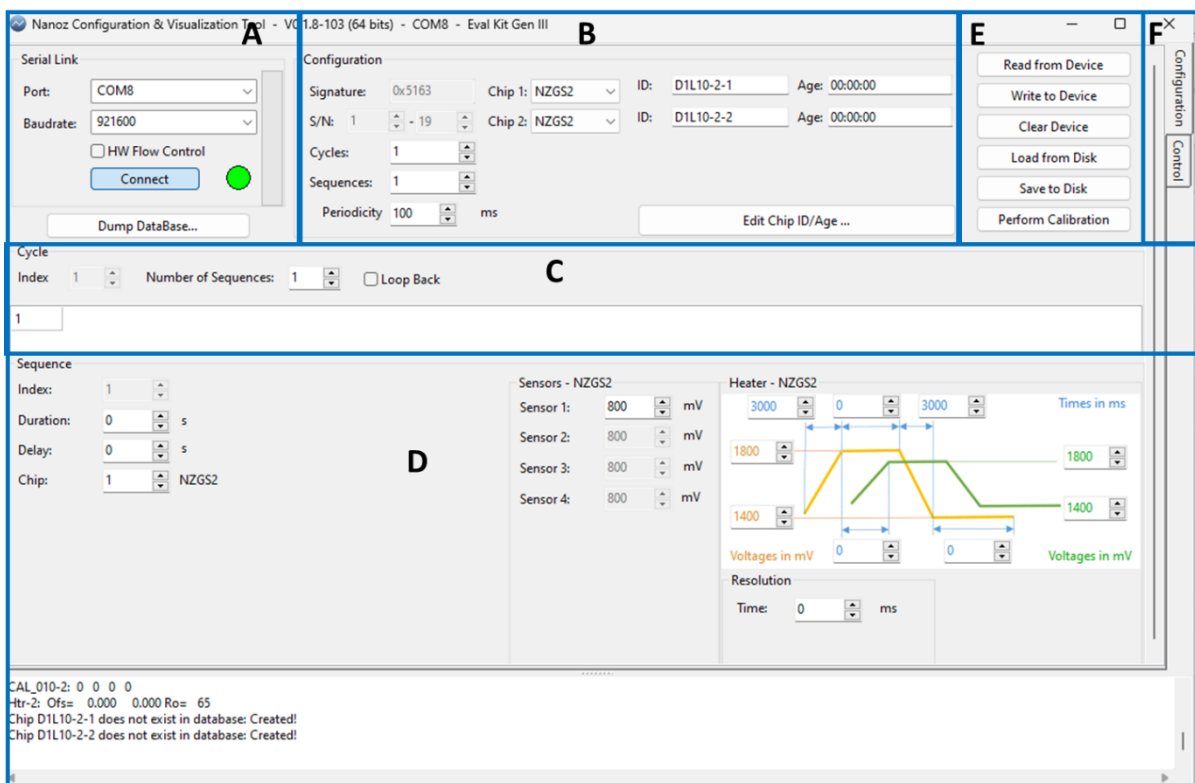

Figure 2 : Setting panels in the "Configuration" window.
- ➔ Configuration window for set up the evaluation kit (see Figure 2).